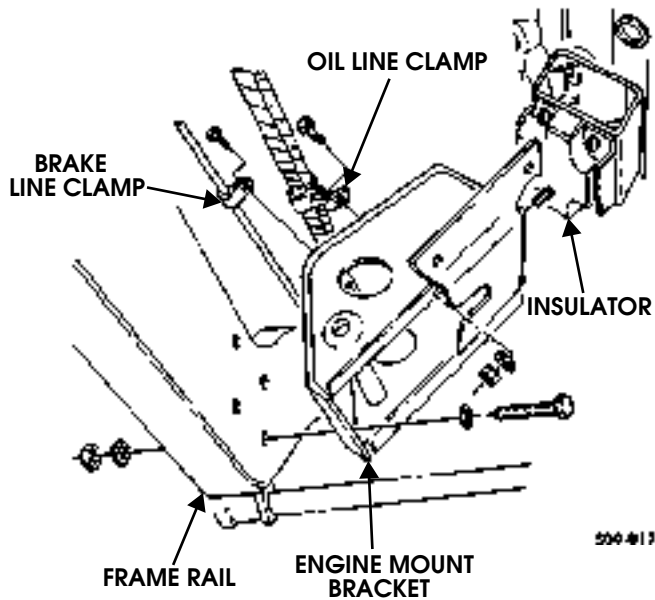

Figure 9-129: Left Engine Mount Bracket Replacement
1. Remove two bolts securing brake line and oil line clamps to engine mount bracket (Figure 9-129).
4. Remove four locknuts, washers, bolts, washers, and engine mount bracket from frame rail (Figure 9-129).
1. Install engine mount bracket on frame rail with four washers, bolts, washers, and locknuts. Tighten locknuts to 90 lb-ft (122 N•m) (Figure 9-129).
3. Secure engine mount bracket to insulator with two washers and locknuts. Tighten locknuts to 90 lb-ft (122 N•m) (Figure 9-129).